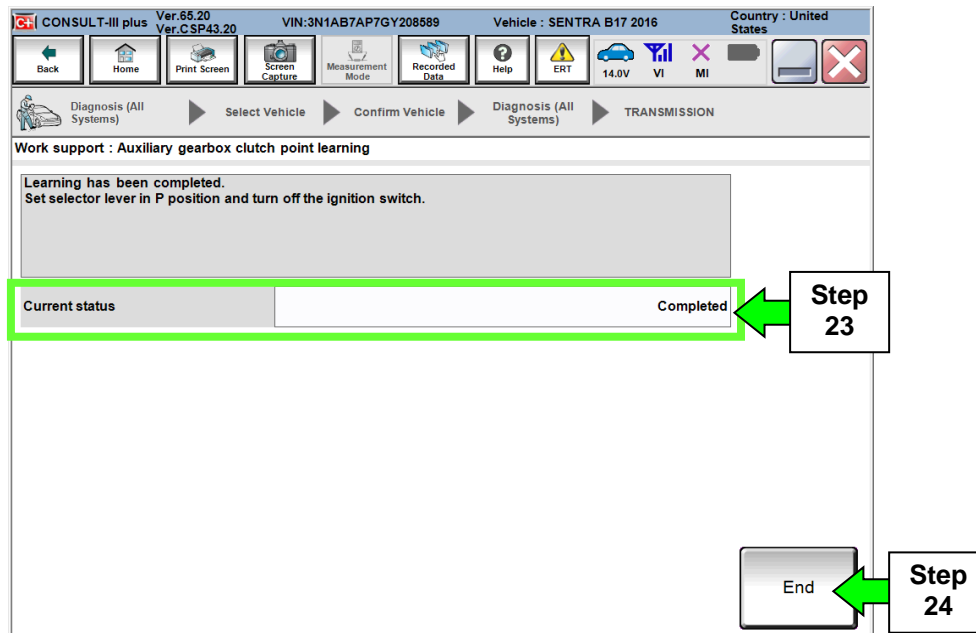

Figure 16
23. Continue to depress the brake pedal until the Current status shows “Completed” as shown in Figure 16.